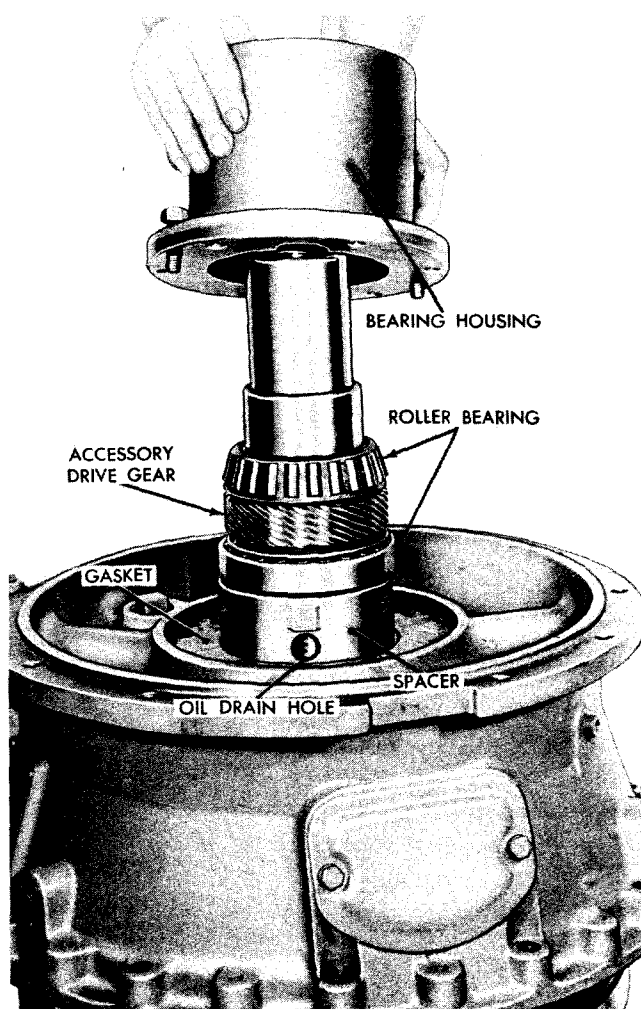

Fig VI-26. Removing bearing housing from converter housing
(6) Remove the six bolts and lock washers from the bearing housing. Before removing the bearing housing, place index marks on the bearing housing and converter housing so that the original position of the bearing housing will be retained.
(7) Using jackscrews, remove the bearing housing from the converter housing (fig. VI-26).
(8) Remove the output shaft by pulling it from the rear of the converter housing. A sleeve, two roller bearing assemblies, and the accessory drive gear will come off with the shaft.
(9) Remove the outer race of the rear roller bearing assembly and the spacer from the bearing housing.
(10) Remove the bearing housing gasket.
(1) Position the converter housing assembly, rear end up, on the disassembly table.
(2) Place the spacer (fig. VI-26) so that it rests against the end of the ground sleeve and then place the bearing outer race so that it rests against the spacer. Position the spacer so that the oil drain hole is next to the ground sleeve.
(3) Install the output shaft in the ground sleeve so that the front roller bearing engages with its outer race.
(4) Install the bearing housing gasket on the rear of the converter housing.
(5) Install the bearing housing on the rear of the converter housing, making sure that any oil drain holes in the bearing housing align with the holes in the converter housing.